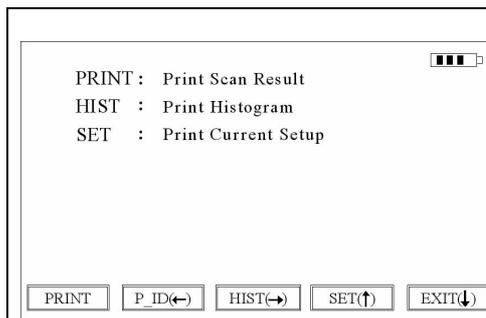

Fig. 3.37
- 2) Push the PRINT button to display LCD as Fig. 3.37., and input patient ID as followings.
d. Go to Fig. 3.37.